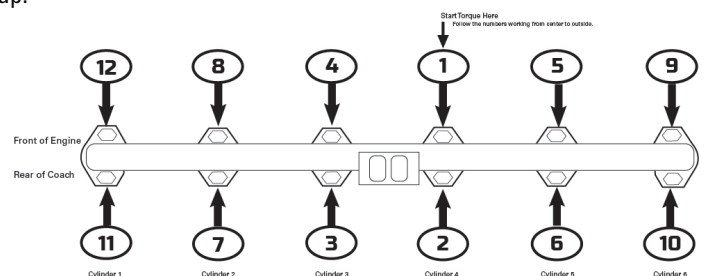

FIGURE 1
- 6 Refer to Figure 1 for torque sequence of the bolts. All bolts must be torqued in sequence to 32ft/lbs.